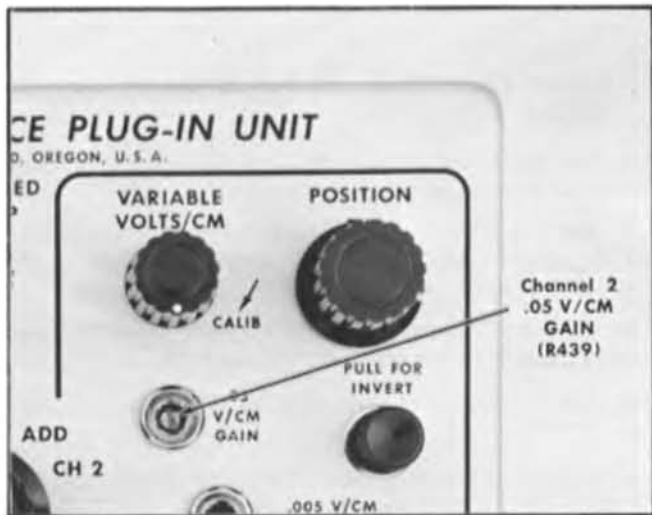

Fig. 7-9. Location of Channel 2 .05 V/CM GAIN adjustment.
- e. ADJUST—Channel 2 .05 V/CM GAIN control (see Fig. 7-9 for a vertical deflection of exactly 4 cm).